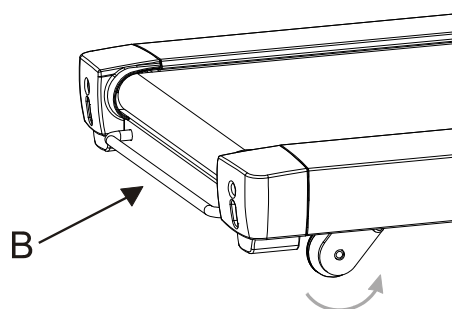

FIG 2.
2. When moving the treadmill lift the rear handle (**B**) with both hands as shown in FIG 2.